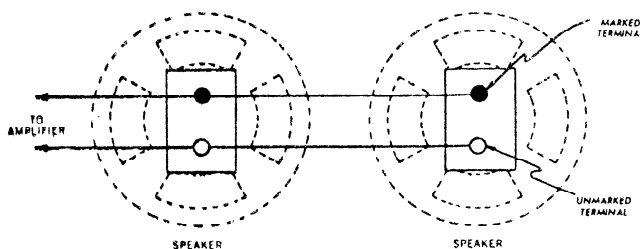
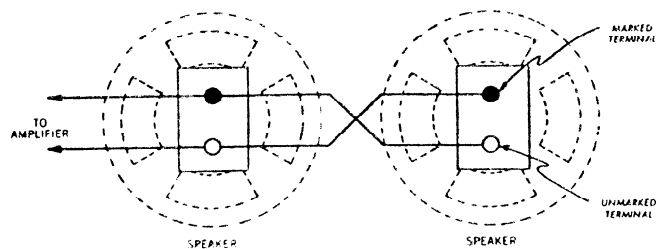

Figure 5 — Phasing Speakers Facing in the Same Direction and Connected in Parallel
Figure 6 — Phasing Speakers Facing Each Other and Connected in Parallel
7. Connect the marked and unmarked terminals according to the manner of electrical arrangement shown in figure 5 if the speakers are facing in the same direction. If the speakers face each other, make connections as shown in figure 6.